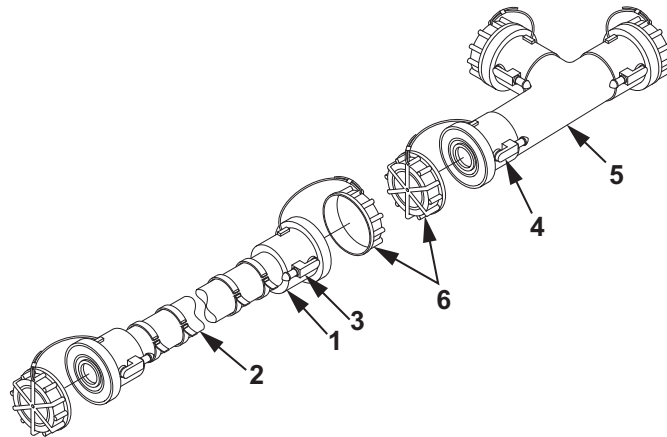

Figure 1. 2 In. X 50 Ft. Discharge Hose Replacement.
1. Place drain pan under quick disconnect coupling halves (Figure 1, Item 1) of hose assembly (Figure 1, Item 2) to be disconnected.
2. Position shutoff valves (Figure 1, Item 3) on quick disconnect coupling halves (Figure 1, Item 1) of hose assembly (Figure 1, Item 2) to the closed position.
3. Position shutoff valves (Figure 1, Item 4) on 2 in. dry-break tee assembly (Figure 1, Item 5) (or component hose is being removed from) to the closed position.
4. Rotate the quick disconnect coupling half (Figure 1, Item 1) on hose assembly (Figure 1, Item 2) counterclockwise.
5. Detach quick disconnect coupling half (Figure 1, Item 1) and remove hose assembly (Figure 1, Item 2).
6. Install dust caps (Figure 1, Item 6) on quick disconnect coupling halves (Figure 1, Item 1) of hose assembly (Figure 1, Item 2) and dry-break tee assembly (Figure 1, Item 5) (or component hose is being removed from).
1. Remove dust caps (Figure 1, Item 6) from quick disconnect coupling halves (Figure 1, Item 1) of hose assembly (Figure 1, Item 2) and dry-break tee assembly (Figure 1, Item 5).
2. Position the quick disconnect coupling half (Figure 1, Item 1) from hose assembly (Figure 1, Item 2) on the 2 in. dry-break tee assembly (Figure 1, Item 5) and rotate clockwise to attach.
3. Position shutoff valves (Figure 1, Item 4) on 2 in. dry-break tee assembly (Figure 1, Item 5) to the open position.
4. Position shutoff valves (Figure 1, Item 3) on quick disconnect coupling halves (Figure 1, Item 1) of hose assembly (Figure 1, Item 2) to the open position.